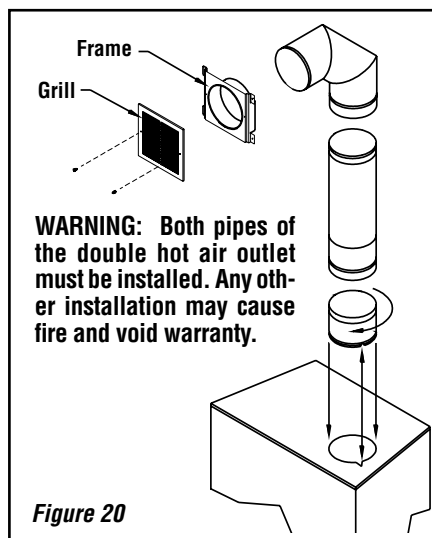

Figure 20
The gravity kit is designed for double hot air outlets and includes: (See **Figures 20 and 21**)
Maximum length See **Figures 20 and 21**
1. Remove the plates closing up the 8" dia. holes on top of the fireplace. Then, cut the insulation and remove the plate under the insulation in order to obtain two 8" dia. openings. Fix the adaptors on the fireplace openings by turning clockwise (**Figure 20**).